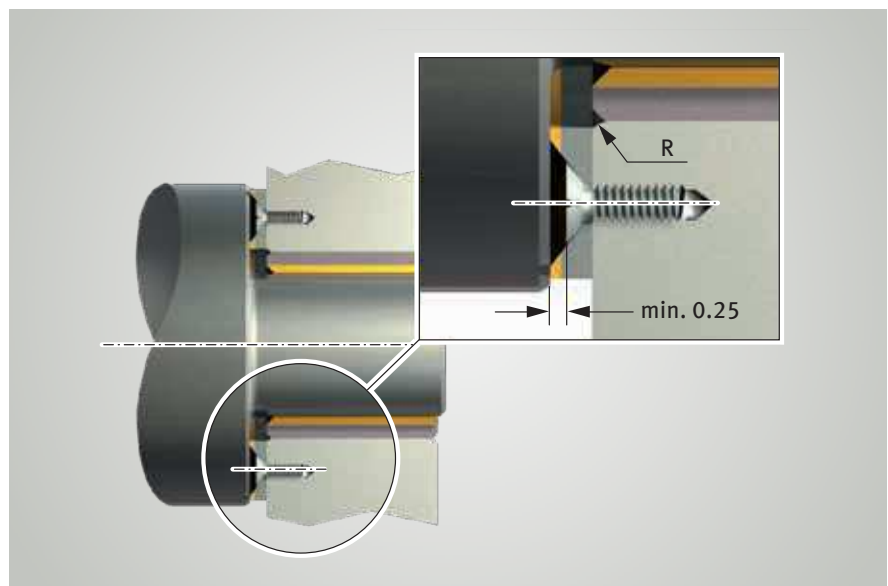

Fig. 4: Attaching a PAW thrust washer without a recess in the housing
- Secure with several register pins or screws (Fig. 4)